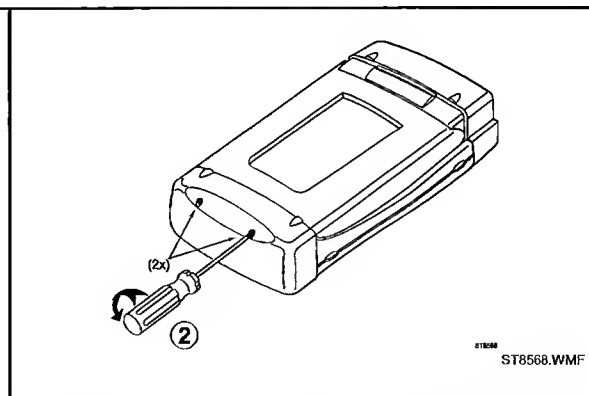

Figure 6-2. Loosen 2 Bottom Holster Screws
2. Loosen the two M3 Torx screws that secure the bottom holster (Figure 6-2).